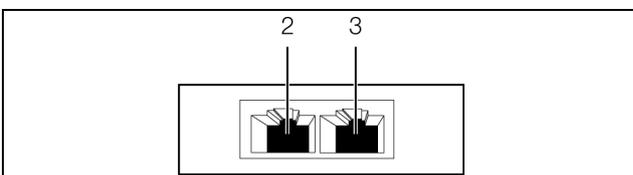

Fig. 7: Rear of the vandalism sensor
- Use a CAN bus connection cable to connect the vandalism sensor to a CAN bus interface on the CMC III Processing Unit or the neighbouring component on the CAN bus (fig. 7, item 2).
- If necessary, connect another component (e.g. another sensor type) to the second, free CAN bus interface of the vandalism sensor (fig. 7, item 3).